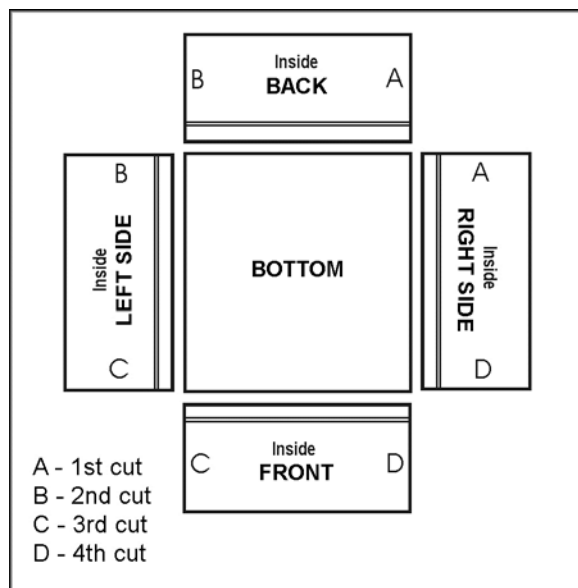

Figure 25
No matter the project, prevent mistakes by laying out the pieces beforehand according to how they will be assembled. Place them with the inside facing up, and label the mating edges, as shown in Figure 25.
11. Continue the dovetailing procedure with the FRONT piece, making cuts “C” and “D” (Figure 25) until all four joints of the drawer have been cut.